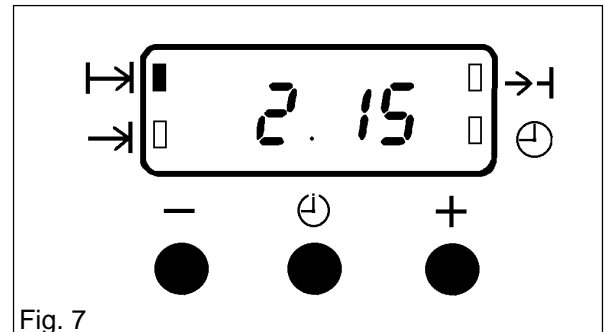

Fig. 7
- iii) To set the length of cooking time, press the Selector Control button (\odot) until the 'Cook Time' indicator is illuminated (\rightarrow ⏏) . Press the increase control (+) until the required length of cooking time is displayed, e.g. 2 hrs 15 mins as Fig. 7. If necessary depress the decrease control (-) until the correct time interval is achieved.